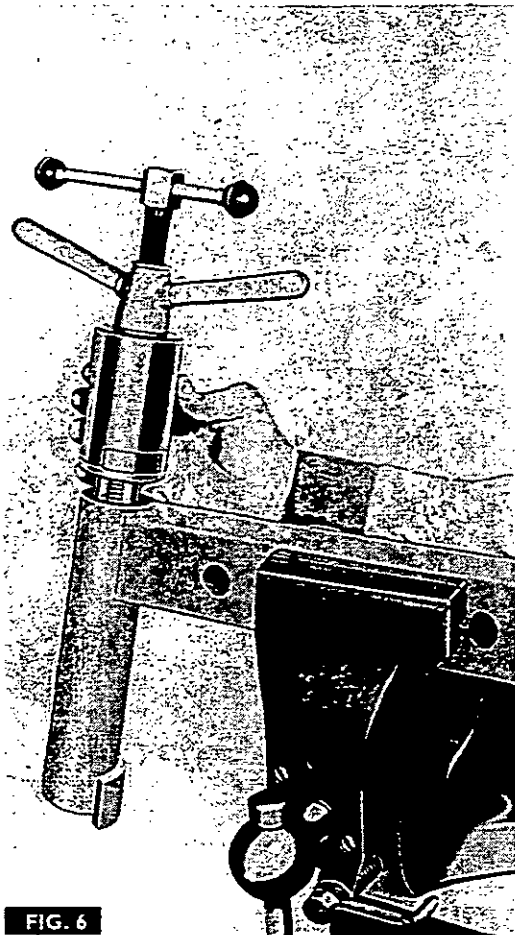

FIG. 6
2. Fig. 6. Assemble the bush remover MF 263 and adapter MF 263-1 as shown.